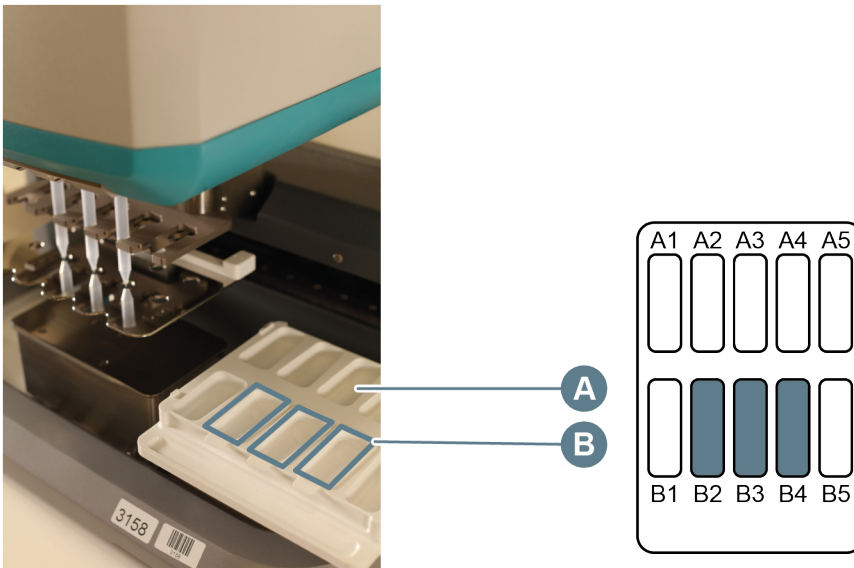

Figure 33. Reservoir tray in filling position
- Slide the reservoir tray to the filling position (A) and place three new reservoirs in position B2, B3 and B4 (B) (*Figure 33*).